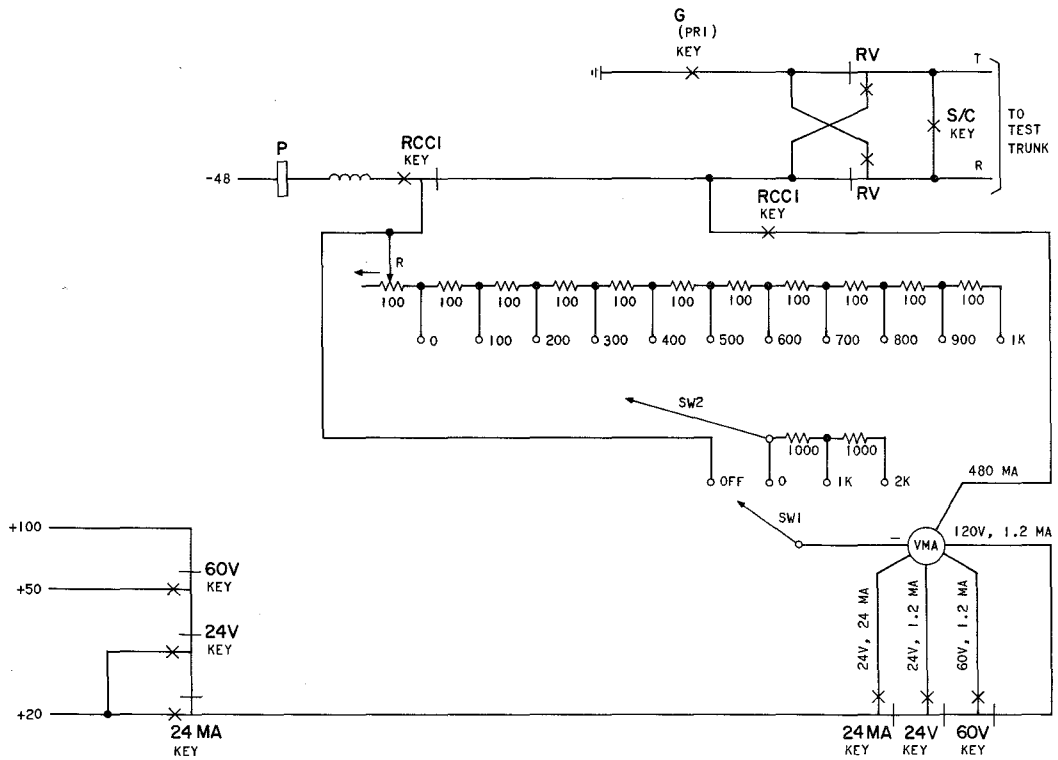

Fig. 2—Potentiometer Circuit for Determining External Circuit Resistance—16-Type Test Desk
**DETERMINING EXTERNAL CIRCUIT RESISTANCE—POTENTIOMETER METHOD—16-TYPE TEST DESK (Fig. 2)**